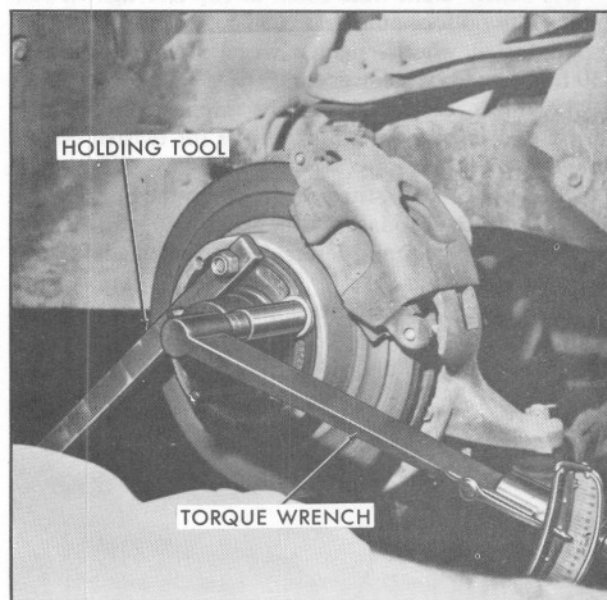

Fig. 3-5 Installing Stud (C-Car Front)
13. With the aid of a suitable holding tool, torque nut to 140 foot-pounds, Fig. 3-5.